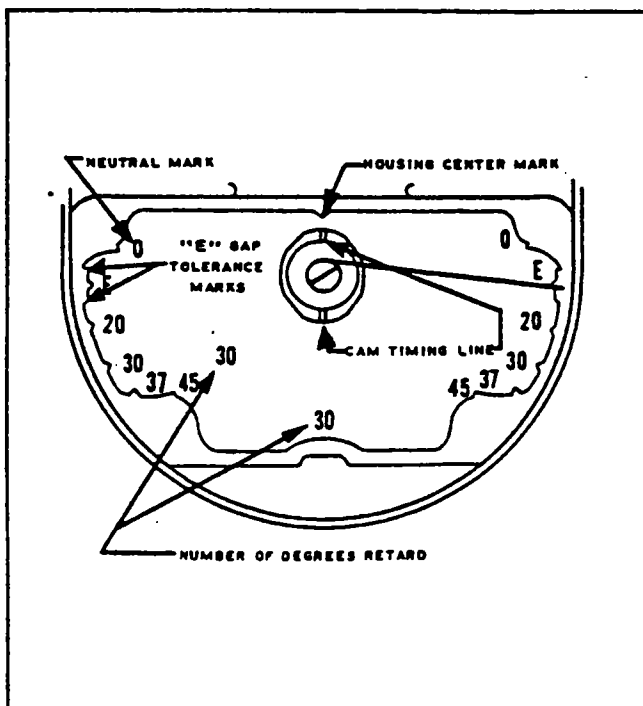

Figure 8-15. Cast-in Timing Marks
b. The internal timing can be checked without a timing kit using the cast in marks in the breaker compartment. These marks indicate "E" gap and limits (refer to Figure 8-15). The point in the center of the "E" gap boss indicates the exact "E" gap position. The width of the boss on either side of the point is the allowable tolerance of $\pm 4^\circ$. In addition to these marks, the cam has an indented line across its end. When the indented line is aligned with the mark at the top of the breaker housing, the rotating magnet is in its "E" gap position. Check the timing using the following procedure:
2. Turn rotating magnet in direction of rotation until painted chamfered tooth of distributor gear is just becoming visible in timing window. Continue turning rotating magnet until line on end of cam is aligned with mark at top of breaker housing. (Refer to Figure 8-15.) Tighten adjusting knob of the holding tool to hold rotating magnet.